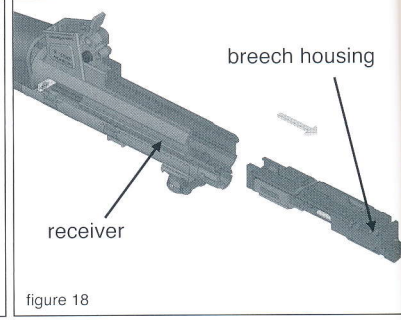

figure 18
8. Now you can pull out the breech carrier assembly. (figure 18)